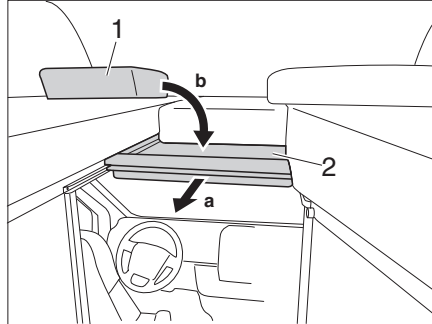

Fig. 56 Driver's cabin partition
- Pull the bed foundation (Fig. 56,2) to the front at the handle.
- Place the cushion (Fig. 56,1) onto the bed foundation.
- Lay the cushion (Fig. 56,1) to the side
- Slide the bed foundation (Fig. 56,2) to the rear.